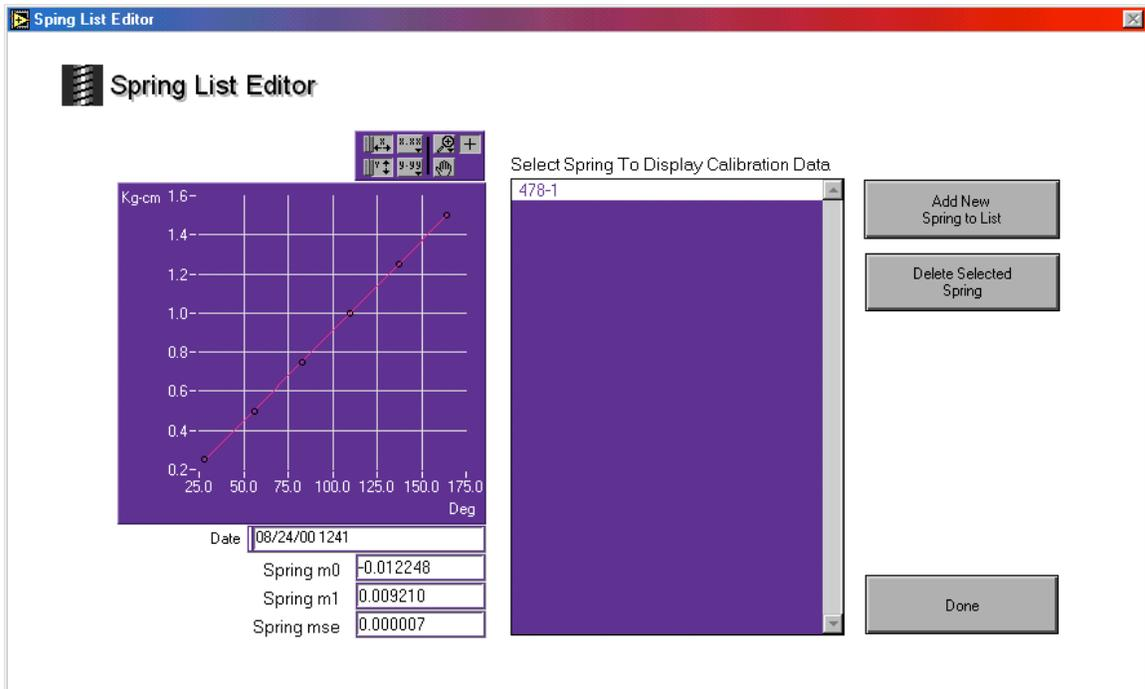

Figure 16. Spring List Editor
1. Click SETUP VANE DEFINITIONS to bring up the Spring List Editor screen (Figure 16)